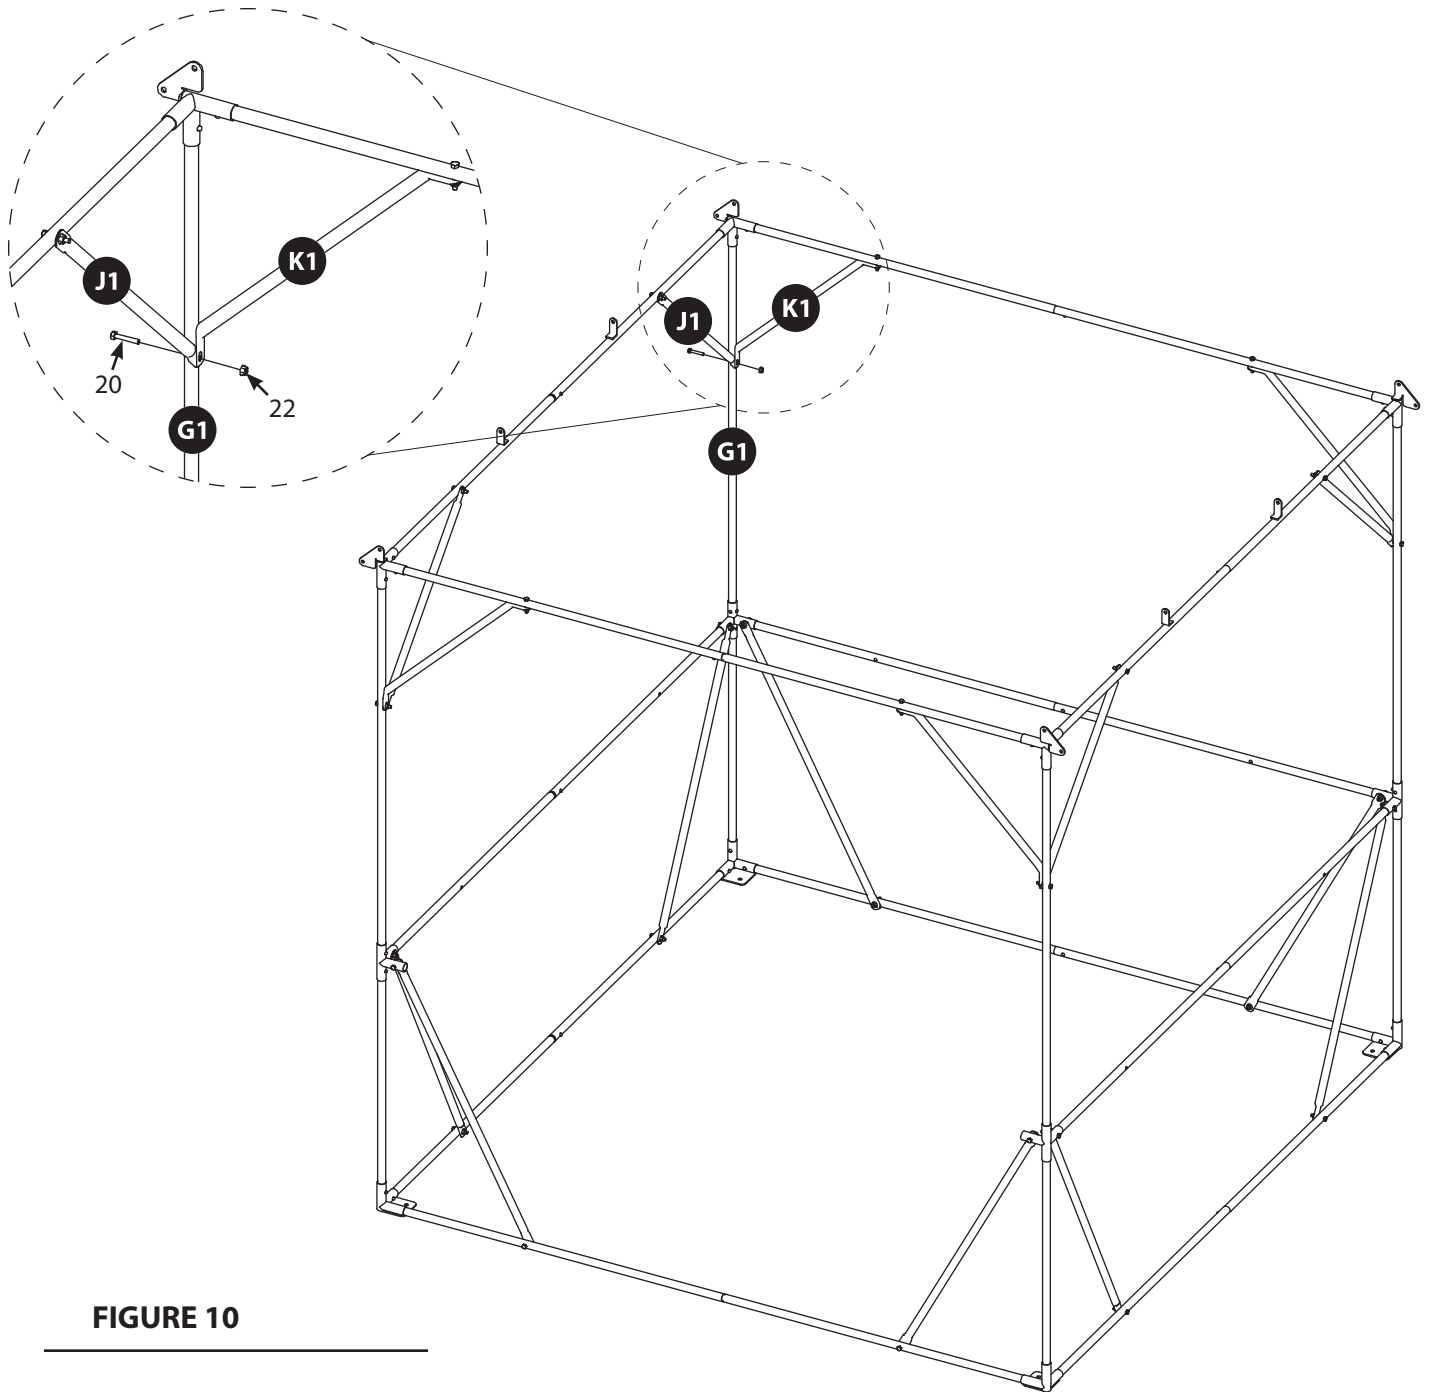

FIGURE 10
20. Attach each set of J1 and K1 poles to the four G1 poles with four M6 x 35mm bolts (20) and M6 nuts (22). Make sure the J1 poles are between the K1 and G1 poles. Tighten all loose hardware at this time. **DO NOT OVERTIGHTEN TO PREVENT CRUSHING TUBING!** **SEE FIGURE 10.**